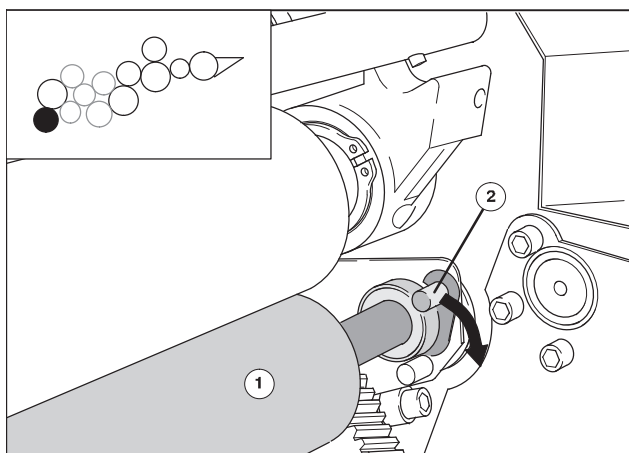

Fig. 49 Inserting the 3rd inking form roller
1. Insert the 3rd ink transfer roller (Fig. 49/1) on both sides in the bearings.
2. Press the lever at the journal box on O.S. (Fig. 49/2) and D.S. towards the blanket cylinder.